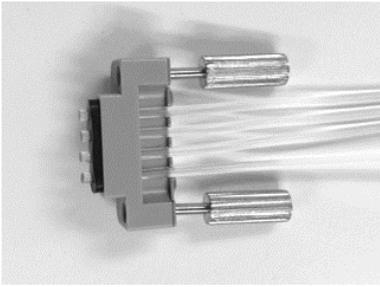

Figure 6
- Push the seal over the tubing ensuring that the tubing protrudes from the seal. See Figure 6.